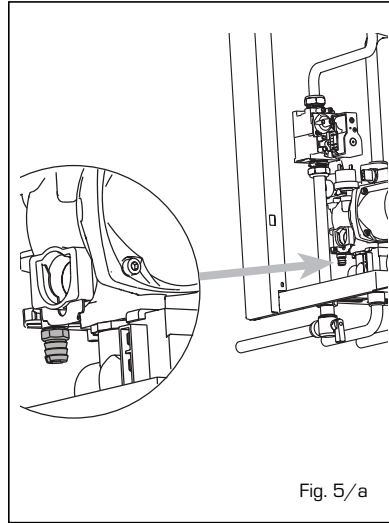

Fig. 5/a
2.4.1 System draining (fig. 5/a)
to loosen with one key from 13 the appropriate download of some turns (fig. 5/a).